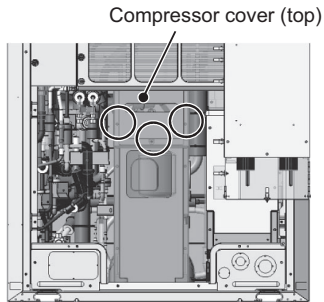

Figure 1
- (1) Remove the top compressor cover by unscrewing the three screws. (See Figure 1.)